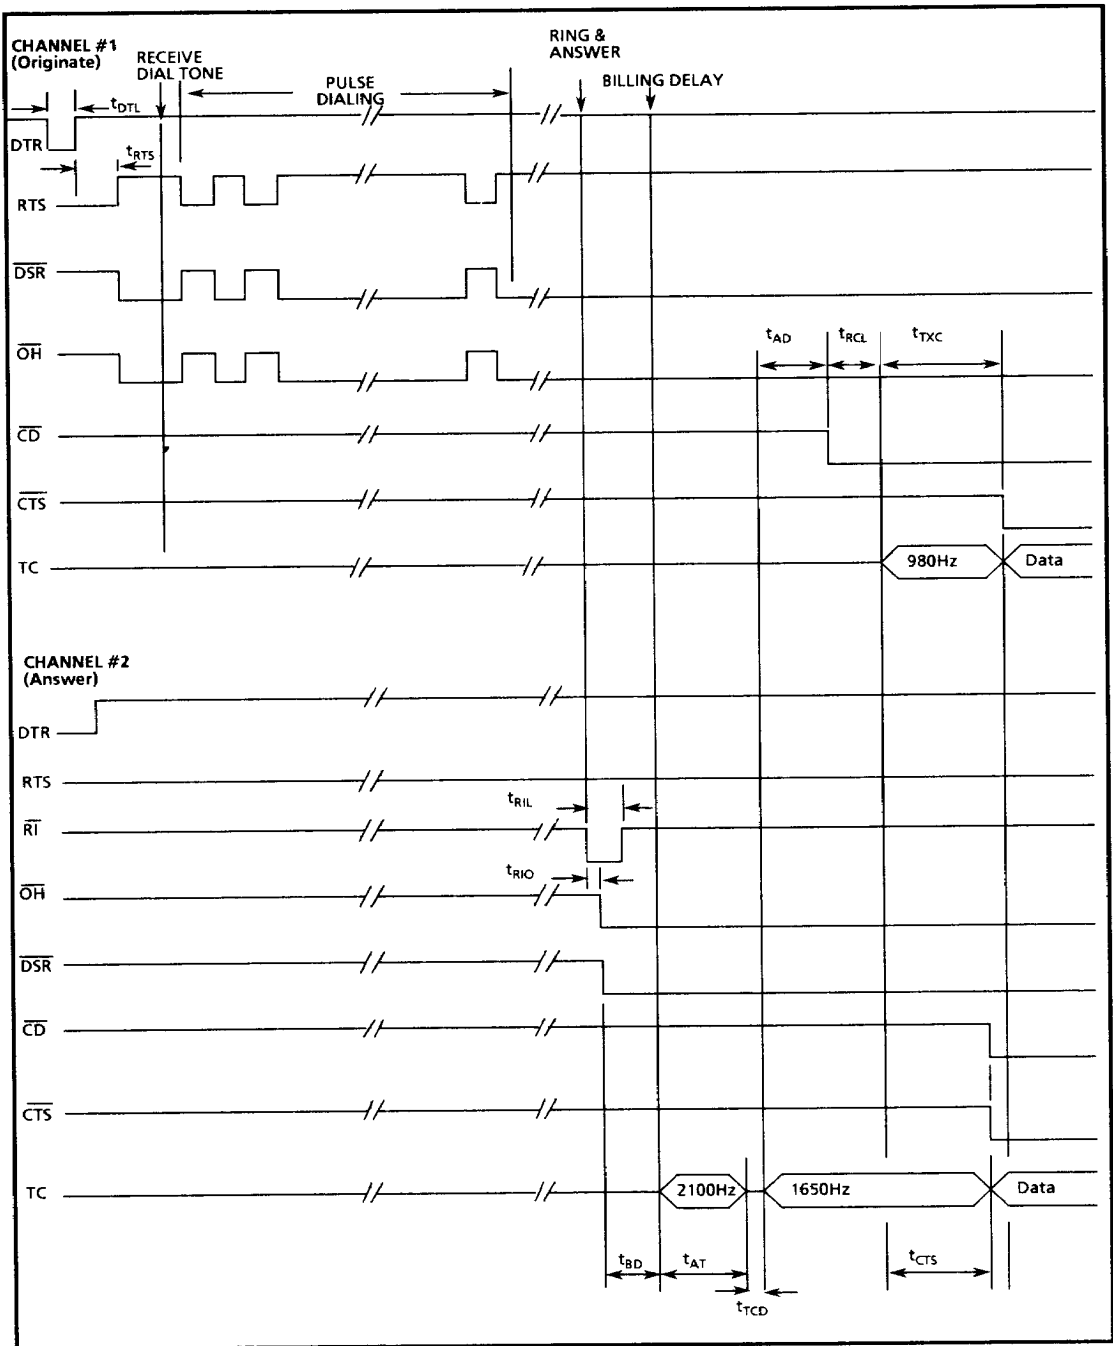

Figure 3 - MT3530 Modem Timing Chart for CCITT V.21 Operating Mode
**Modem Timing† Parameters for Bell 103 Operating Mode. See Figures 3 and 4a.**
The MT3530 will perform the same operations described above in the CCITT V.21 mode if the SL pin is tied High. The basic principle is the same but the frequencies and the timings are switched to conform to V.21 specifications. See the timing charts (Figures 3 and 4) and Table 2 for additional details. When in V.21 mode the V.25 Answer Tone of 2100 Hz will be generated upon answering.